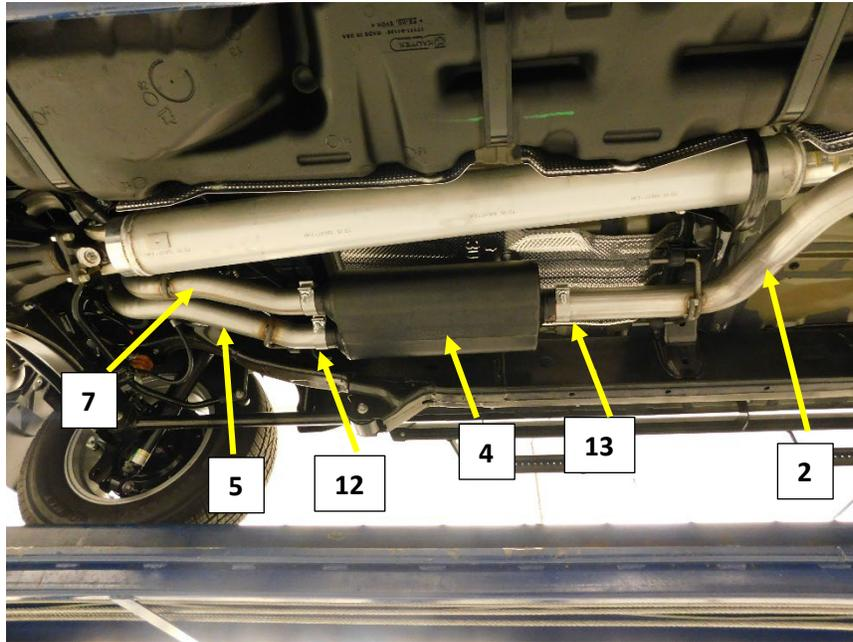
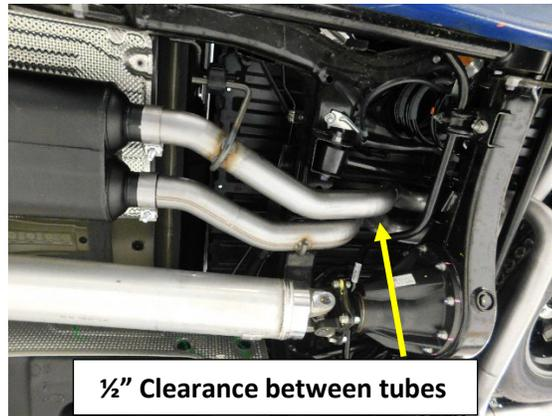

Figure.7
Figure.9
5. Install a 3" band clamp (13) on to the inlet of the 8530572-Z muffler (4). **Fig. 7**
6. Install the muffler (4) on to the muffler inlet pipe (2), align the muffler with the logo down and muffler case level. Tighten the clamp. **Fig. 7** **Note: Use extension pipe 26984S (3) between Muffler and inlet pipe**
7. Install a supplied 2.5" band clamp (12) on each muffler outlet. **Fig. 7**
9. Install the Right Muffler Outlet Pipe (7) into the mufflers right (passenger side) outlet. **Fig.7**. Rotate the pipe up and install the rubber isolator on to the hanger rod and frame hanger. Adjust the clearance between the two pipes to $\frac{1}{2}$ " just after the bend up into the chassis. Tighten the clamp just enough to prevent movement. **Fig.9**